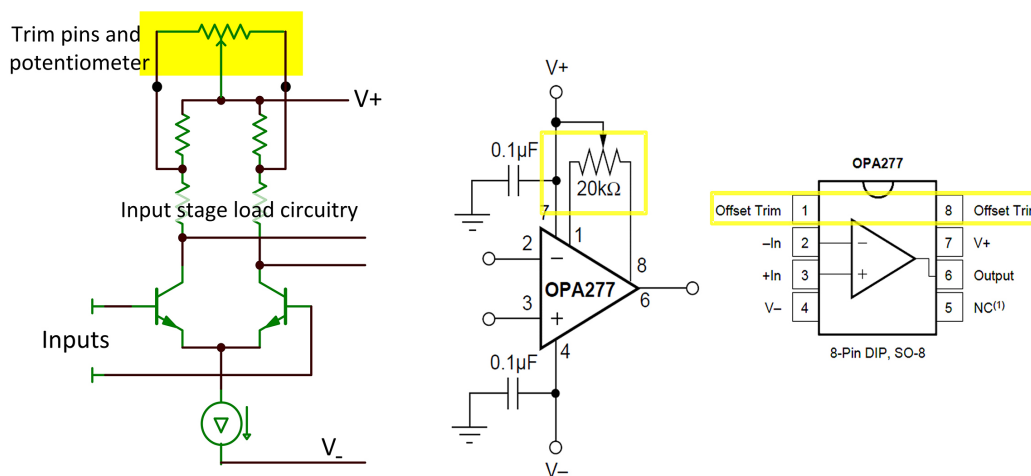

Figure 13: Typical internal circuitry where trim pins connect to the input-stage load circuitry.
**Figure 13** shows a common type of internal trim circuitry. Trim pins connect to a tapped portion of the input-stage load circuitry. Adjusting the potentiometer skews the balance of the load plus or minus a few millivolts of input offset voltage. Datasheets generally recommend a value for the potential, but it is not critical. A much higher resistance potentiometer will cause the change in offset voltage to occur toward the extremes of rotation. Too low a value will reduce the adjustment range. Potentials in the range of +100 percent to 50 percent of the recommended value will likely function satisfactorily.